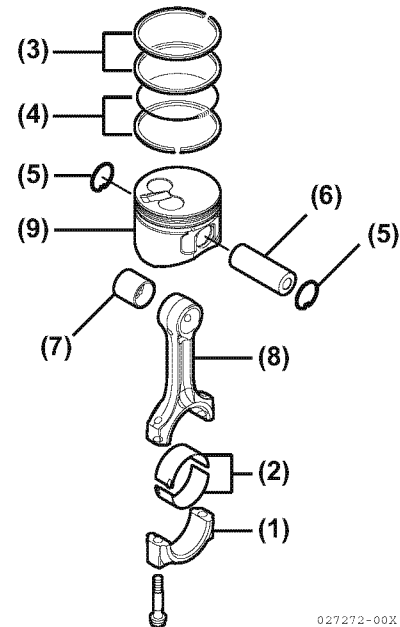

Figure 6-51
11. Remove the bearing inserts (**Figure 6-51, (2)**).
12. Remove the compression rings (**Figure 6-51, (3)**) from the piston using a piston ring expander.
13. Remove the oil ring (**Figure 6-51, (4)**) from the piston using a piston ring expander.
14. Remove the circlips (**Figure 6-51, (5)**) from the wrist pin.
15. Remove the wrist pin (**Figure 6-51, (6)**) and connecting rod (**Figure 6-51, (8)**) from the piston (**Figure 6-51, (9)**).